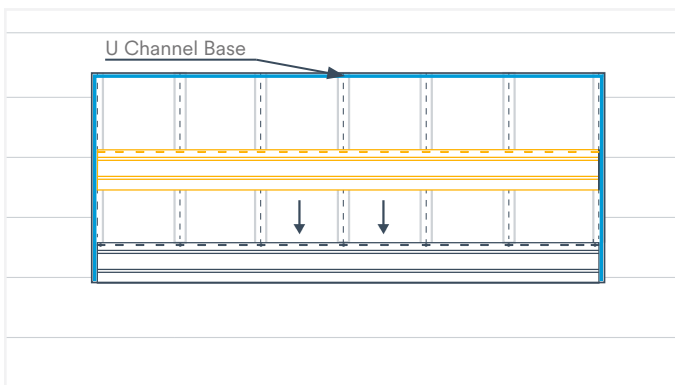

Fig. 25
1. Place a panel on top of the previously installed panel, aligning the ends of both panels (Fig. 25).